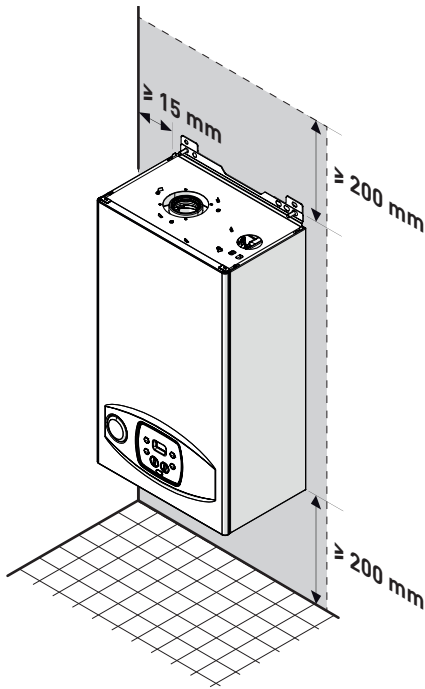

Fig. 16
- Observe the required clearances (see Fig. 16).